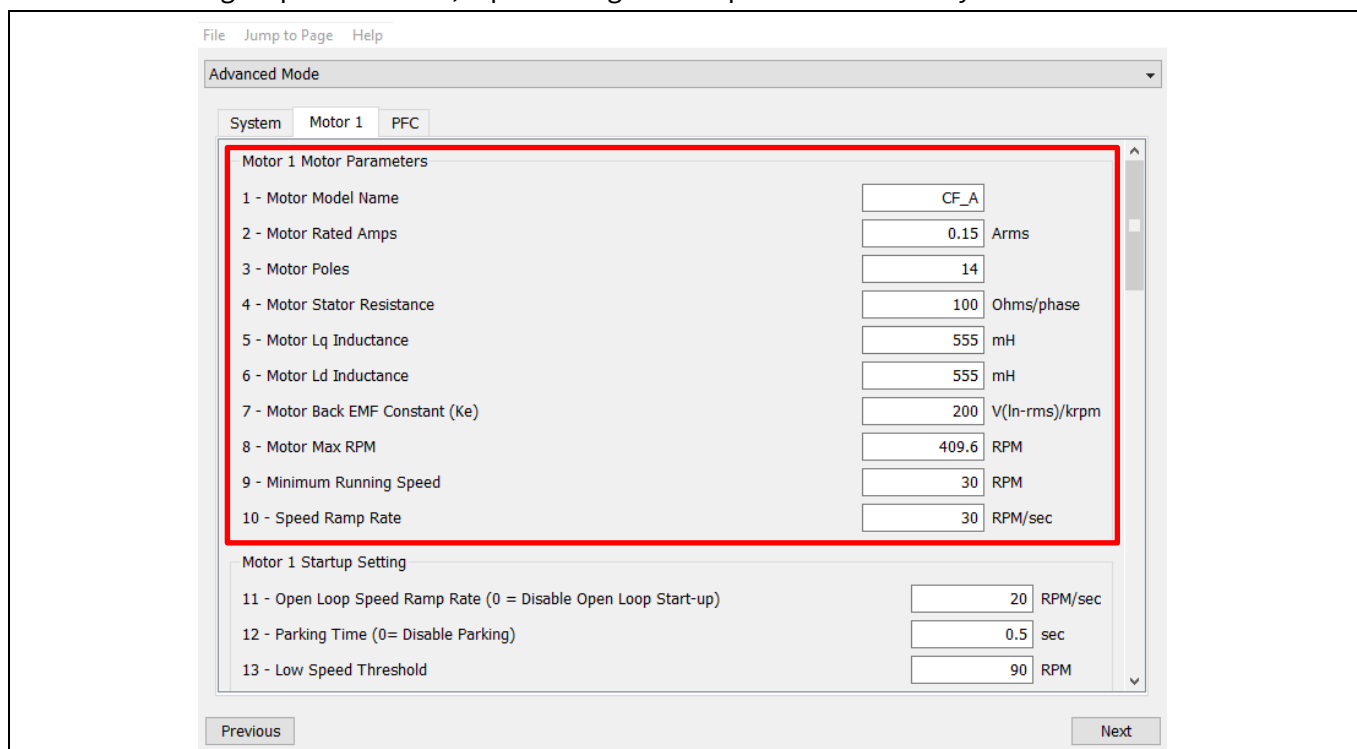

Figure 8 Motor parameters input
1. Use MCEWizard to open the MCEWizard file (‘.mc2’) as shown in Figure 7, then enter the target motor’s system parameters in “Advanced Mode > Motor 1” as shown in Figure 8, which will be used to calculate the controller’s digital parameter set, representing the complete motor drive system.